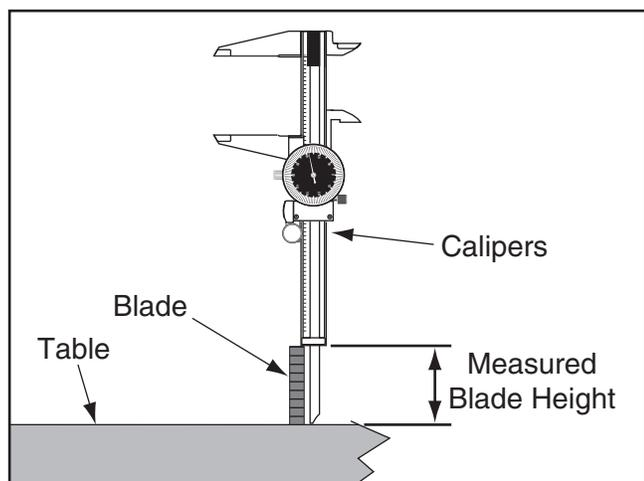

Figure 23. Measuring blade height with calipers.
3. Measure the distance from the top of the table to the top of the blade tooth, as shown in **Figure 23**.